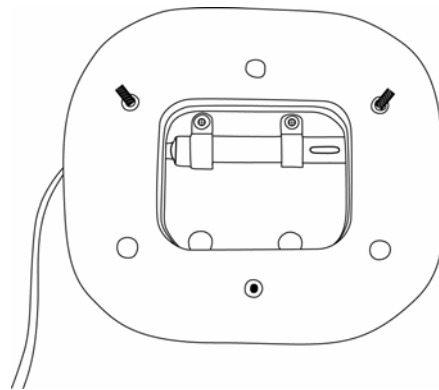

Figure 2: Temp/RH Sensor mounted in the Solar Radiation Shield
- Solar Radiation Shield: Use the two 5/8 inch cable clamps, two washers and two screws (included with the radiation shield) to secure the temperature smart sensor in the radiation shield as shown in Figure 2.